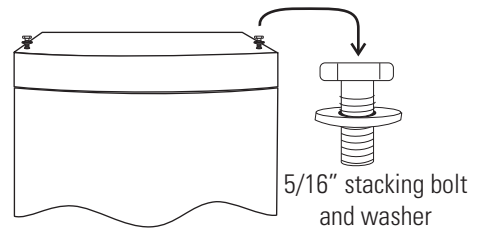

Figure 1-6. Bolt Holes
3. Remove the two plastic plugs from the bolt holes in the exterior top of the bottom unit. Install the $\frac{1}{2}$ " long 5/16-18 stacking bolts and washers (Figure 1-6) into the bolt holes - do not tighten the bolts at this time.